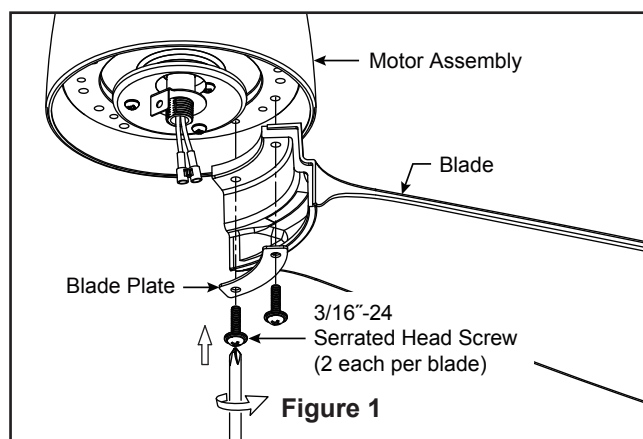

Figure 1
- ☐ 1. Assemble canopy by rotating key slot in canopy over shoulder screw in hanger bracket, taking care not to pinch the wires. Tighten shoulder screw. Fully assemble and tighten second shoulder screw that was previously removed. (Figure 1)
1. Align blade holes with posts on the motor assembly flywheel. Make sure the blade is fully seated against the flywheel. Place blade plate over the blade with holes aligned and assemble blade to flywheel using serrated head screws, fully tighten the screws that attach the blades to the motor assembly flywheel. (Figure 1)
- ☐ 1. **IMPORTANT:** Using a full range dimmer switch (not included) to control fan speed will damage the fan. To reduce the risk of fire or electrical shock, do not use a full range dimmer switch to control the fan speed. (Figure 1)